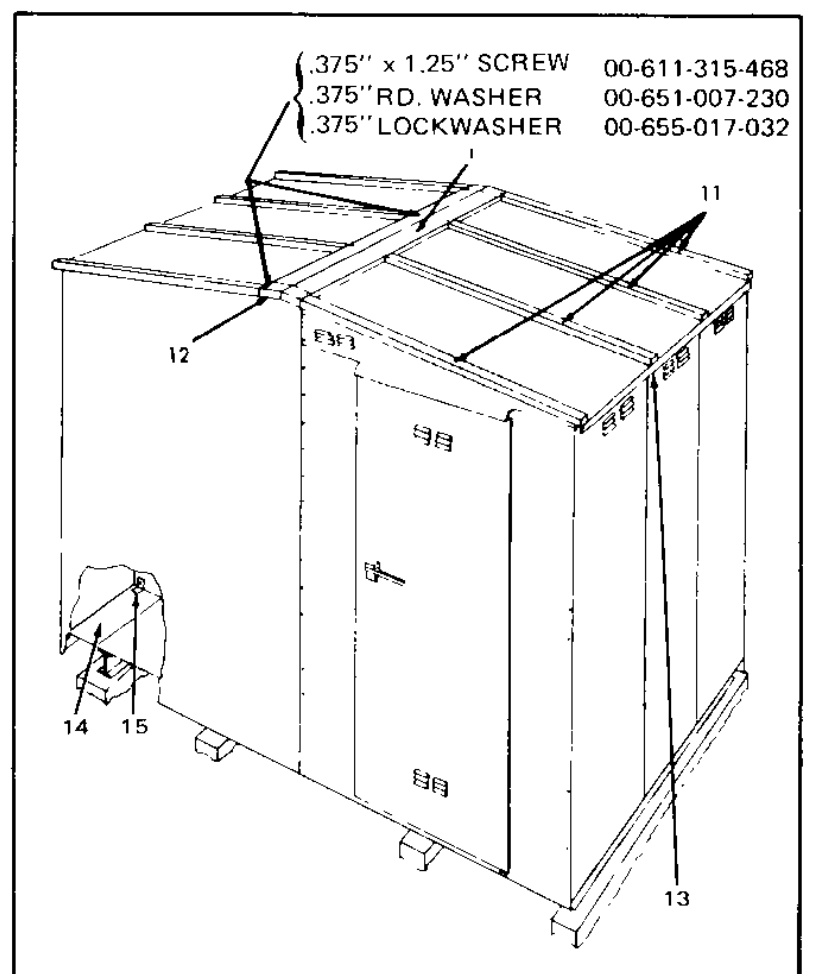

Figure 30. Roof Gable Installation – Single Aisle Layout
12. See Figure 30. Install roof gable assembly (1). Adjust the position of the gable and the channels (11) so that the channels fit into the notches of the gable.
13. Bolt roof gable assembly (1) into place using weld nuts in roof channels (11).
14. Add end gable assembly (12) at each end. Fasten cover (13) to roof.
15. Drill cable cover (14) to suit conduit installation. Clamp the cover in place with angle (15).